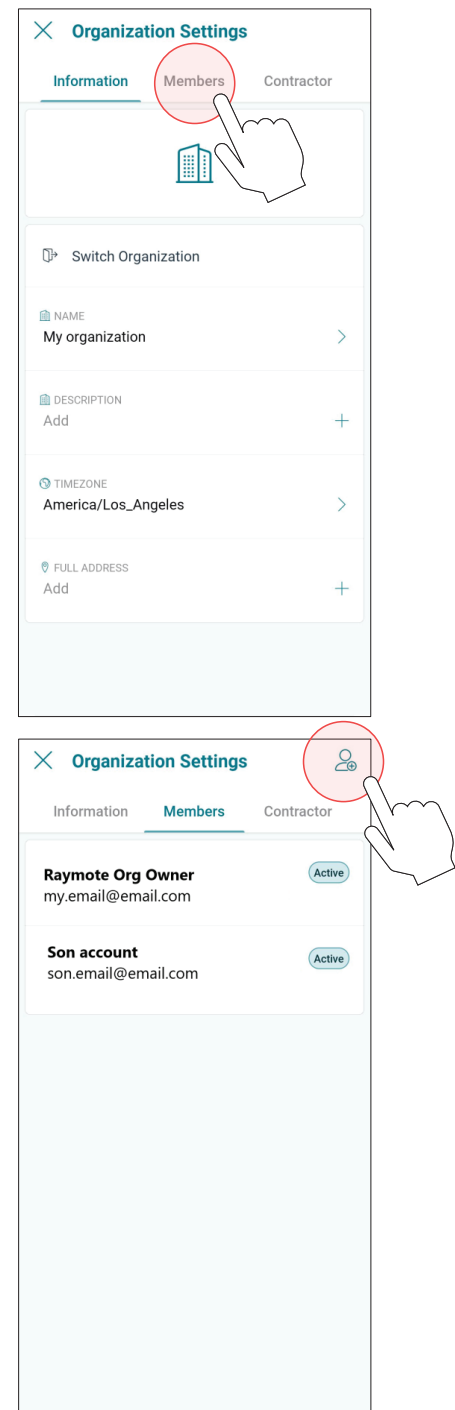

Figure 109. Invite a New Member to your Organization
4. Click on the top-right icon to [Invite a New Member]. See **Figure 109** and **Figure 110**.